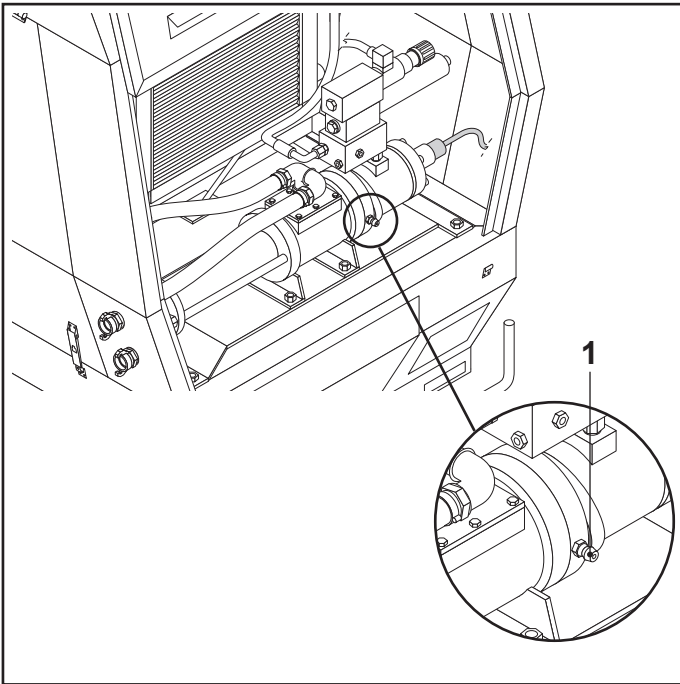

FIG. 61
- If the machine is equipped with a set-accelerator metering pump lubricate the point (FIG. 61-REF. 1).